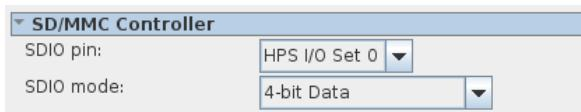

Figure 9-9. SD/MMC configuration
- a. Configure “SDIO pin” to “HPS I/O Set 0” and “SDIO mode” to “4-bit Data”, as shown in Figure 9-9.